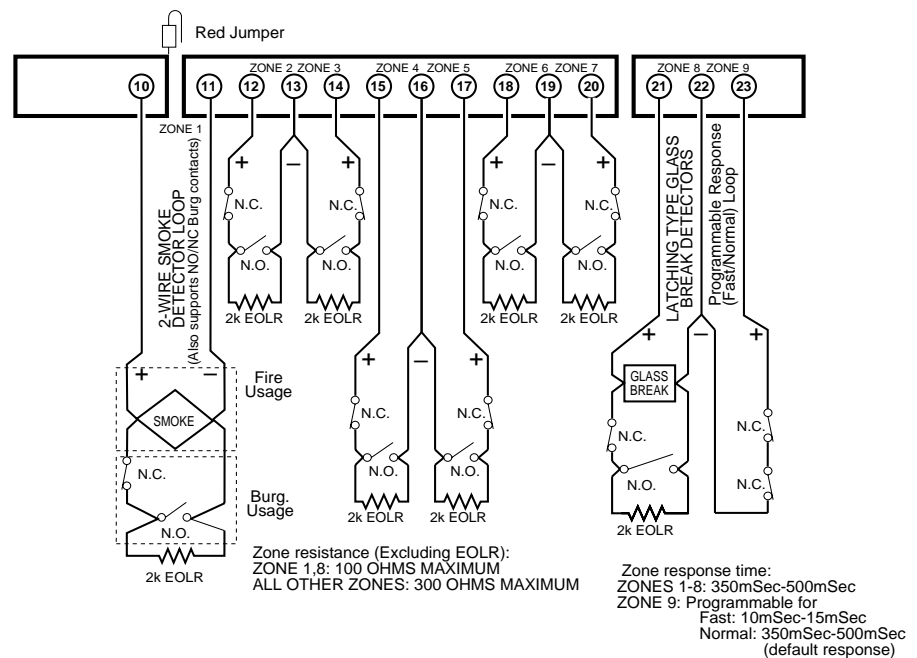

Figure 9: Zones 1-9 Wiring Connections
1. Cut the red jumper on the PC board located above Zone 1 (see *Figure 9*).